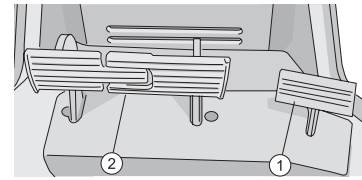
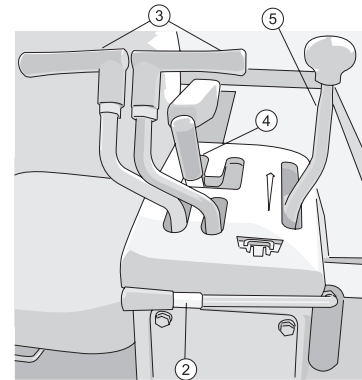
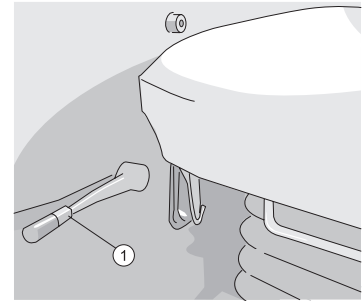

Figure 2-65
Figure 2-66
Figure 2-69
- Step down the deceleration pedal (1) to reduce engine speed, so that there is no impact when the vehicle is started (Figure 2-65).
- Put the gear shift lever (4) to the needed position, and the vehicle will start to move (Figure 2-66)
5. Pull throttle control lever (5), to accelerate the engine (Figure 2-66)
6. Through the gear shift lever (4) you can select any speed without stopping the vehicle. (Figure 2-66)
Push the throttle control lever (5) to the idling position, to reduce engine speed. Push the gear shift lever (4) to the NEUTRAL (N) position. (Figure 2-66)
Step down the crossing part in the middle of the left and right brake pedal (2), and the vehicle stops (Figure 2-65); pull the brake lock lever (1) to the LOCK position (Figure 2-69), to lock the gear shift lock lever (2) (Figure 2-66).